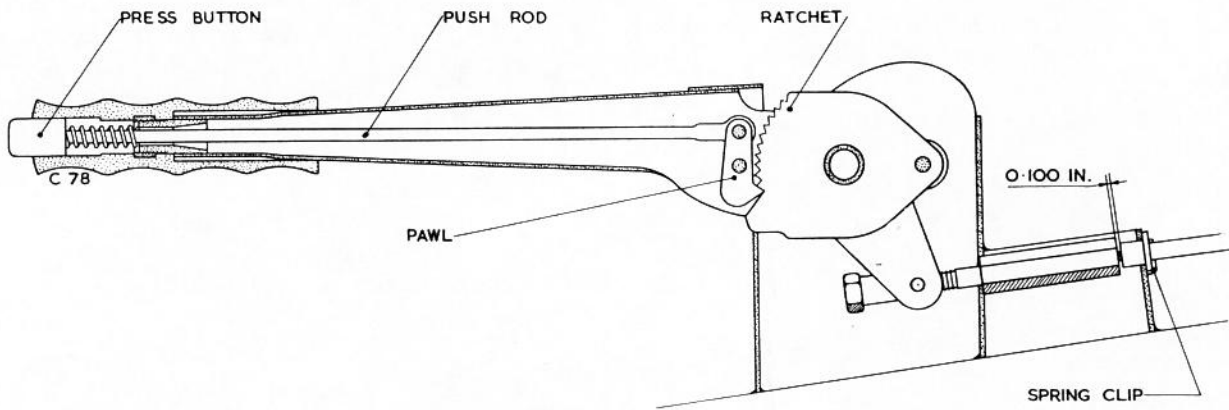

Fig. 10 Hand brake lever.
The hand brake lever, see Fig.10, is operated by pulling it up, the ratchet retaining it in position. The brake is released by pressing the button and lowering the lever.
3. Set the hand brake to the "off" position. Adjust the fork end at the front end of the cable until 0.100 in. clearance is obtained at the location shown in Fig. 10.